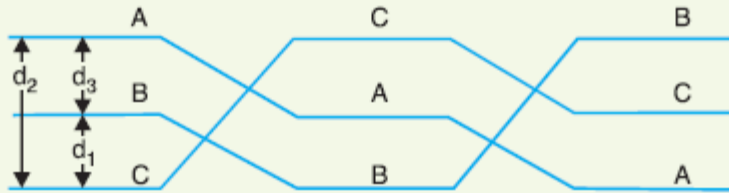

Fig. 9.25
**(ii) Unsymmetrical spacing.** Fig. 9.25 shows a 3-phase transposed line having unsymmetrical spacing. Let us assume balanced conditions *i.e.*  $Q_A + Q_B + Q_C = 0$ .